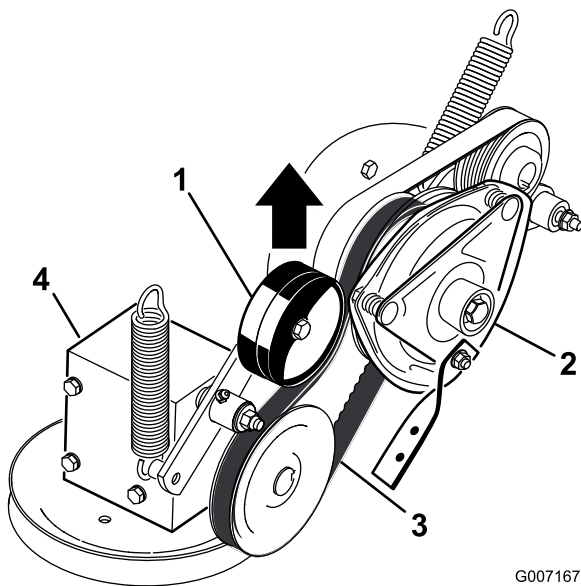

Figure 59
5. Pull up on the spring loaded idler pulley for the PTO drive belt and remove the belt from the clutch pulley (Figure 59).
17. Pull up on the spring loaded idler for the PTO drive belt and install it onto the clutch pulley (Figure 59).